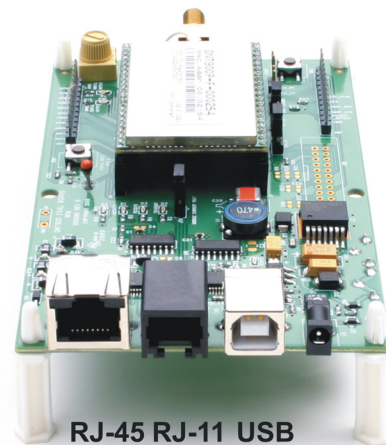

Figure 4
5. As shown in Figure 4, there are three serial connectors on the interface boards. The RJ-45 connector provides a high-speed RS232 interface to the DNT900P's main serial port. The USB connector provides an optional interface to the radio's main serial port. The RJ-11 connector provides a high speed RS232 interface to the radio's diagnostic port.